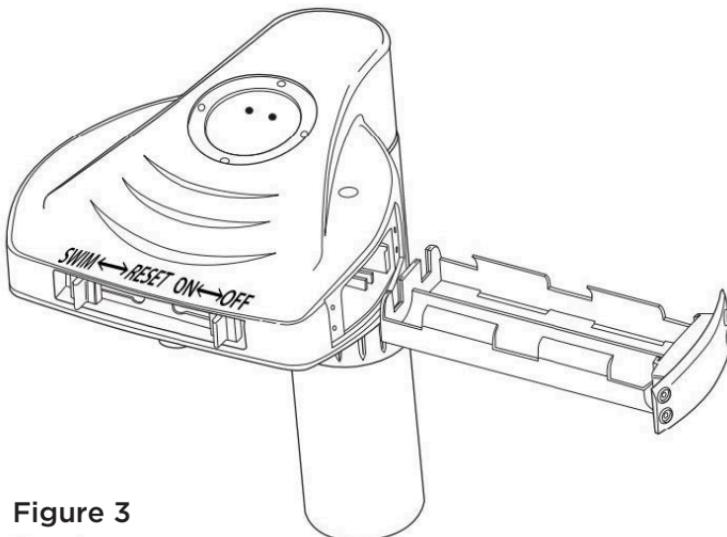

**Figure 2**
**STEP 2:** Use pencil to mark two holes to be drilled into deck to secure alarm, aligning marks with holes in left and right of the alarm body head. Refer to **Figure 2** for appropriate spacing.
**STEP 3:** Drill holes into hole markings with a 1/4" masonry drill. Refer to **Figure 2** to drill holes 1.75" deep. To achieve the right depth, measure 1.75" inches from the end of the drill bit, and mark point with masking tape. Stop drilling when deck is level with tape. Remove dust and debris from hole. Remove nuts and washers from mounting anchors, and insert mounting anchors into previously drilled holes. To mount into wood deck or metal rail, use screws provided.